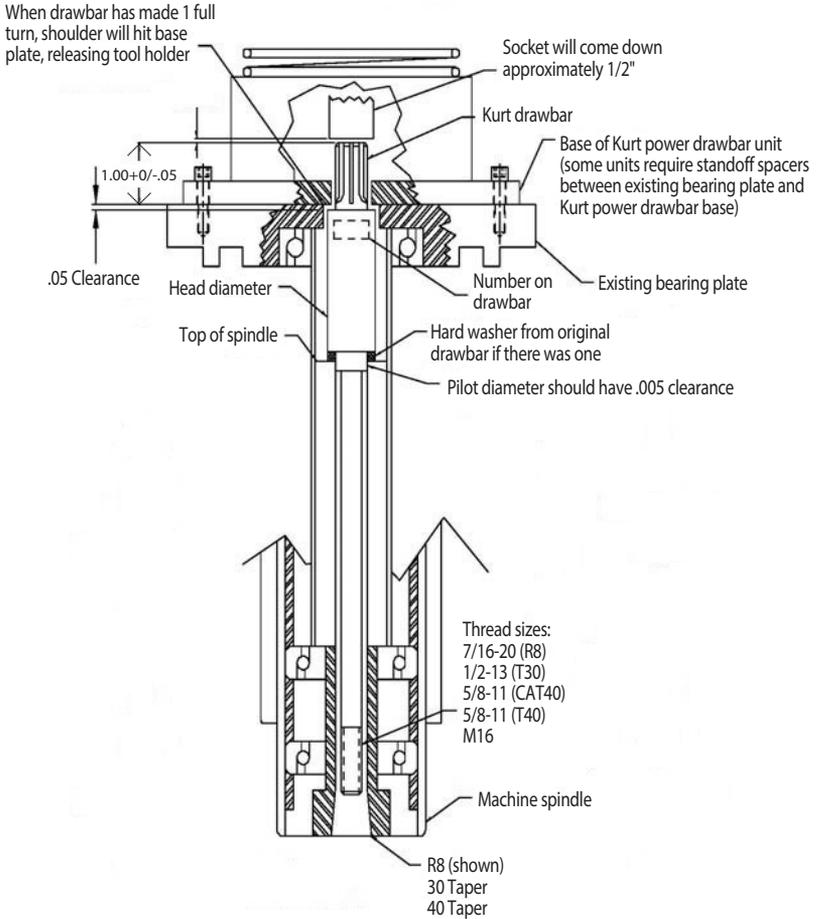

Figure 1
5. At the top of the machine, where the drawbar was inserted into the machine, is the machine bearing plate. The spline of the new drawbar should be protruding just above the bearing plate 1.000 +.000/-.050. The shoulder just below the spline should be .050 to .100 below the top of the bearing plate. If it is short, double-check to make sure the quill is locked in the fully retracted position. (see FIGURE 1)